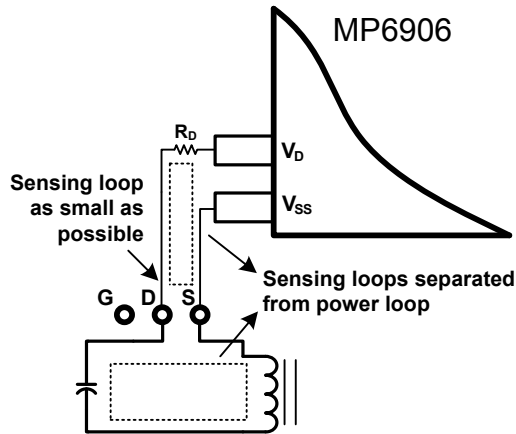
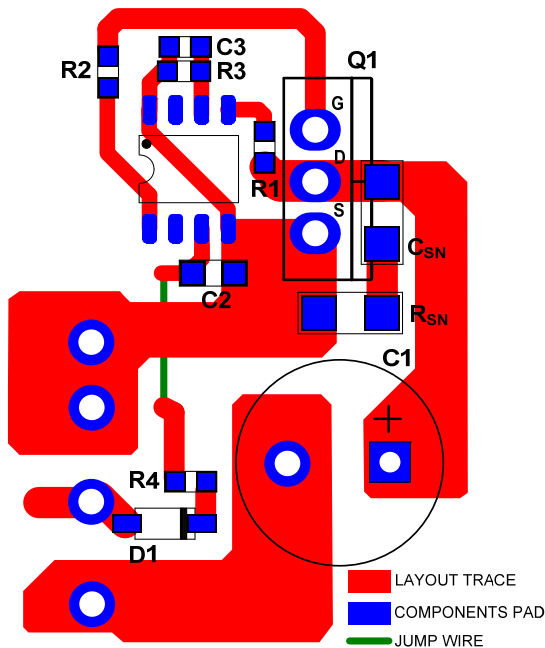
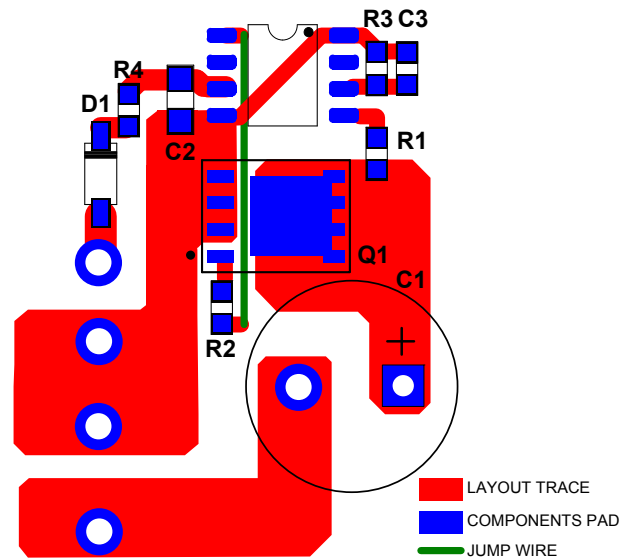

Figure 17: Voltage Sensing for V_D/V_{SS} on MP690
Figure 18: Layout Example with TO220 package SR FET
Figure 19: Layout Example with PowerPAK/SO8 Package SR FET
Efficient PCB layout is critical for optimal operation. For best results, refer to Figure 17, Figure 18, and Figure 19 and follow the guidelines below:
- 3.) Keep the IC out of the power loop to make sure the sensing loop and power loop do not interrupt each other (see Figure 17).
Figure 18 shows a layout example of a single layer with a through-hole transformer and a TO220 package SR FET. R_{SN} and C_{SN} are the RC snubber network for the SR FET.
Figure19 shows another layout example of a single layer with a PowerPAK/SO8 package SR FET, which also has a minimized sensing loop and power loop to avoid the loops interfering with one another.